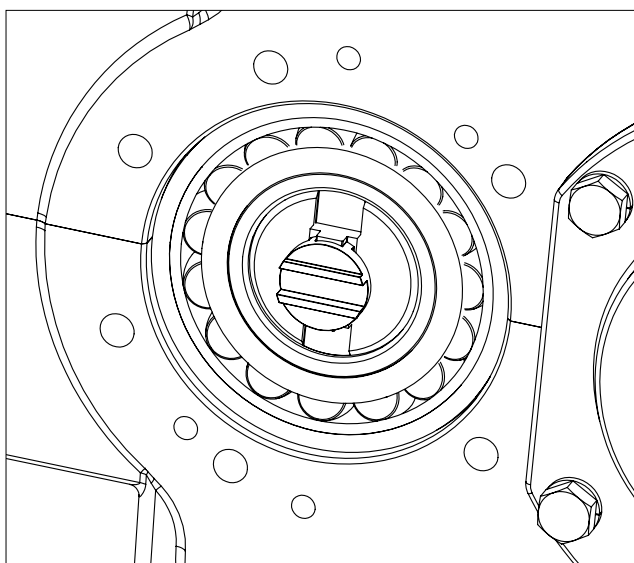

FIGURE 17 — coupling center disc element properly located against end of gearbox pinion. Pump adapter component hidden for clarity.
- a. To determine the proper position of the hub on the shaft, first make sure the bronze coupling center disc element is secure against the gearbox pinion end. See Figure 17.